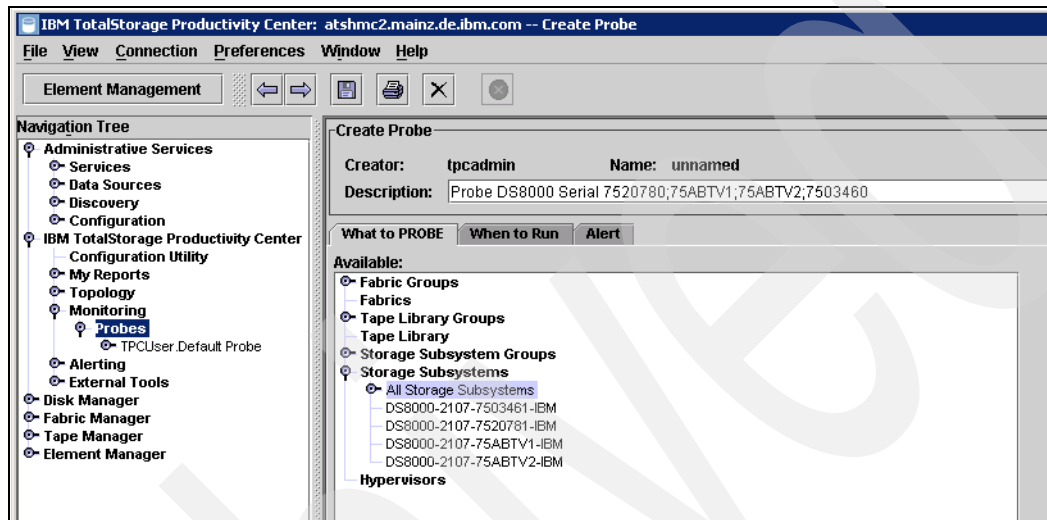

Figure 12-17 Configuring a new probe
3. In the next window (Figure 12-17), specify the systems to probe in the What to Probe tab. To add a system to a probe, double-click the subsystem name to add it to the Current Selection list.